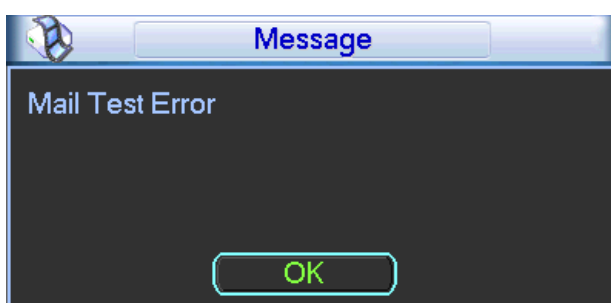

Figure 6-45
- Interval: Please check the above box to enable this function and then set the corresponding interval. System can send out the email regularly as you set here. Click the Test button, you can see the corresponding dialogue box to see the email connection is OK or not. See Figure 6-45.